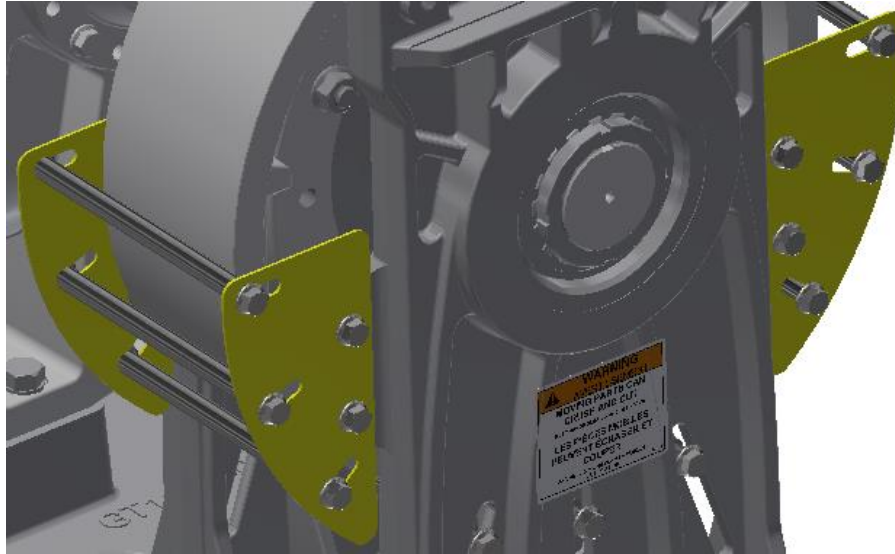

Figure 4-12: GT11 BS Machine Finished Assembly
- See Figure 4-12 for an illustration of a finished assembly.